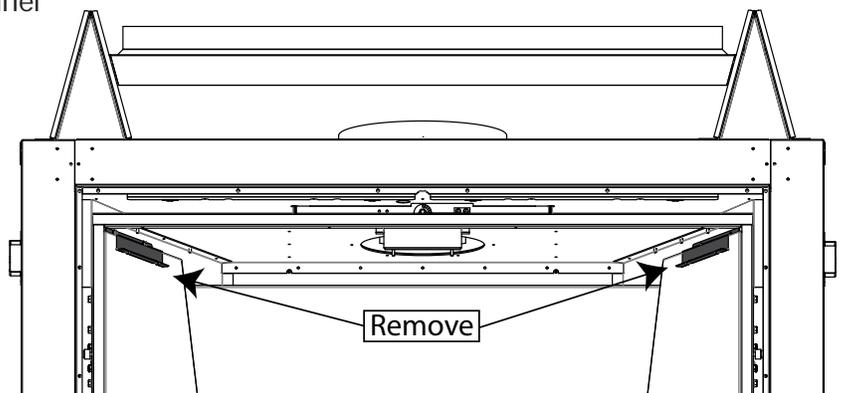

Figure 73: Liner Retainers
Step 3. Remove the side liner retainers one at a time using a 5/16 socket (see Figure 73). The screws only have to be loosened, not completely removed, as the retainers are slotted. ***Note:** The upper rear liner is supported by the side liners. When removing the side liners, be sure to properly support the upper rear liner so that it does not fall.